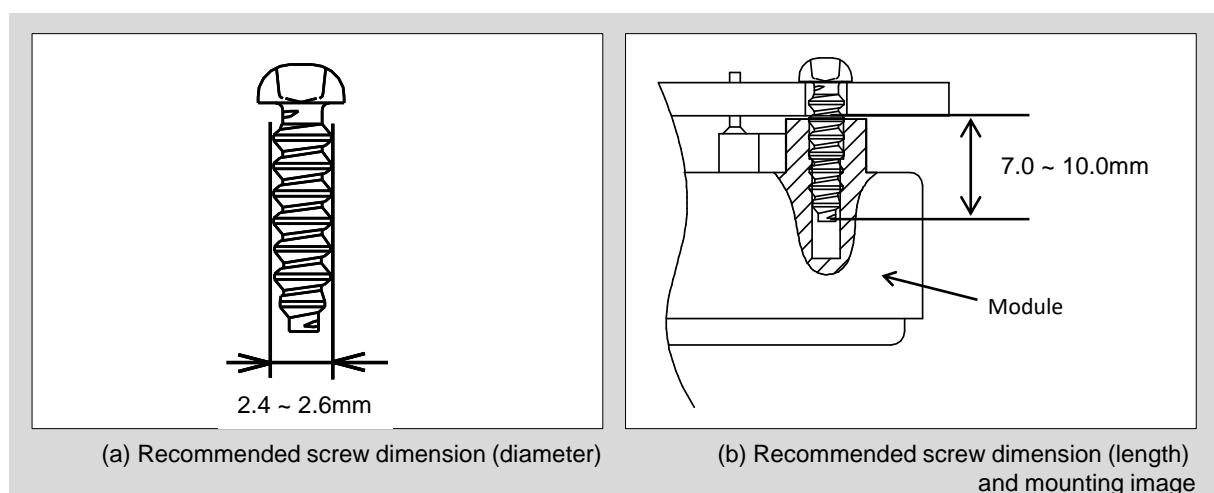

Figure 5. Recommended screw dimensions and mounting image
1. Use a self-tapping screw to fix the PCB to the module. As shown in Figure 5, use screws with a diameter of 2.4 to 2.6 mm and a length of 7.0 to 10.0 mm from the underside of the PCB.